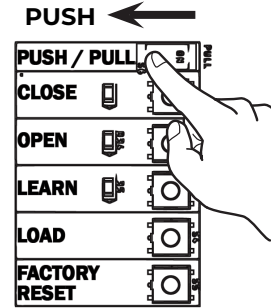
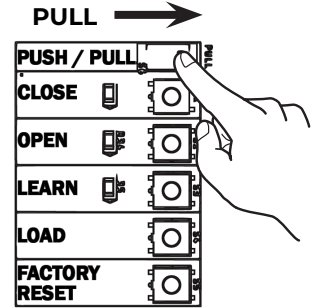

Figure 5
Figure 6
- To select the operator’s arm mode, move the toggle switch of the PUSH/PULL setup button on the control board to the **left** for PUSH (Figure 5) or **right** for PULL (Figure 6).